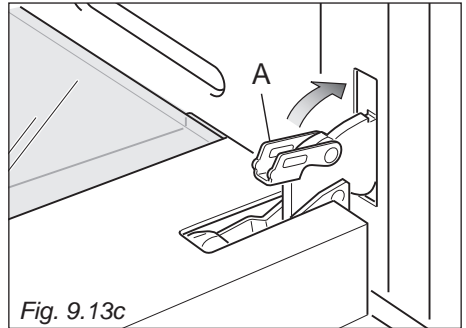

Fig. 9.13c
4. Fully close the levers "A" on the left and right hinges, as shown in the figure 9.13c.